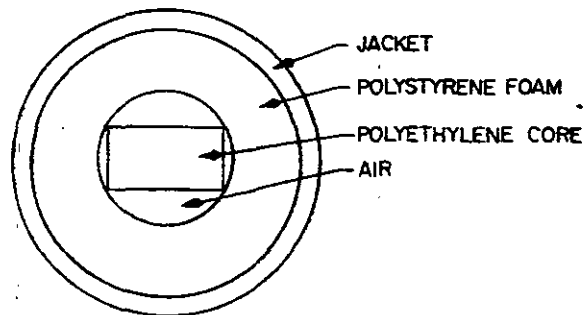

FIGURE 6.21. Typical dielectric waveguide.
6.7.2 Mechanical properties. A dielectric waveguide consists of a dielectric core surrounded by a dielectric material with a different dielectric constant than the core. Propagation takes place by reflection from the boundary between core and surrounding material. The surrounding material may be air or some other dielectric material. A commonly used dielectric waveguide configuration is a polyethylene core surrounded by a polystyrene foam material, see figure 6.21.